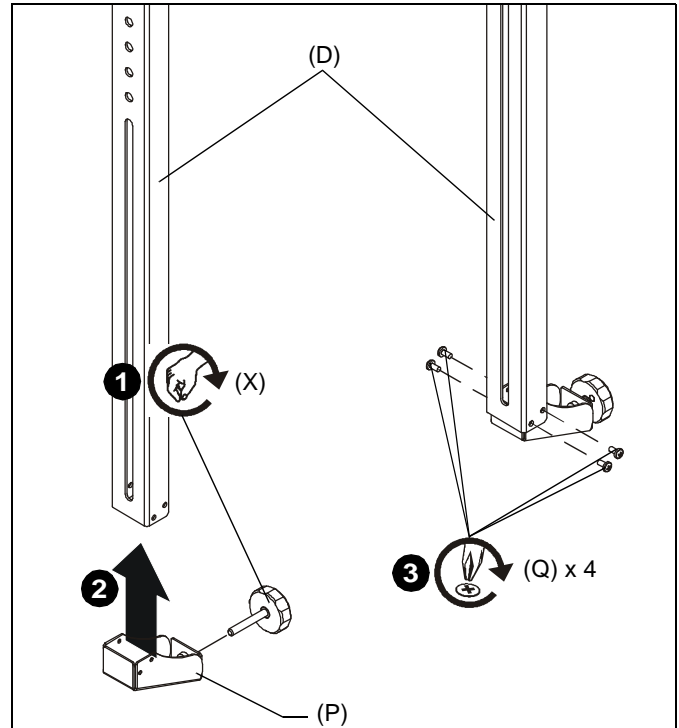

Figure 2
1. Install M6x40mm knob (X) into hole on alternate foot (P). (See Figure 2)
2. Place alternate foot (P) over bottom of upright assembly (D). (See Figure 2)
3. Fasten alternate foot (P) to upright assembly (D) using four #8 x 1/2" Phillips self-tapping screws (Q). (See Figure 2)
4. Repeat Steps 1-3 on the other upright assembly (D).